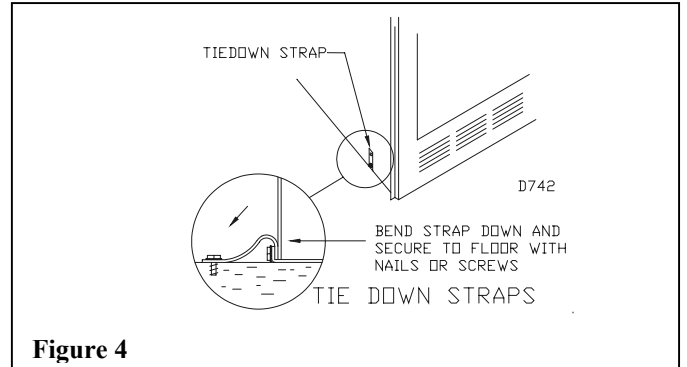

Figure 4
STEP 6: Secure fireplace to floor using tie-down straps (see figure 4) to prevent shifting.